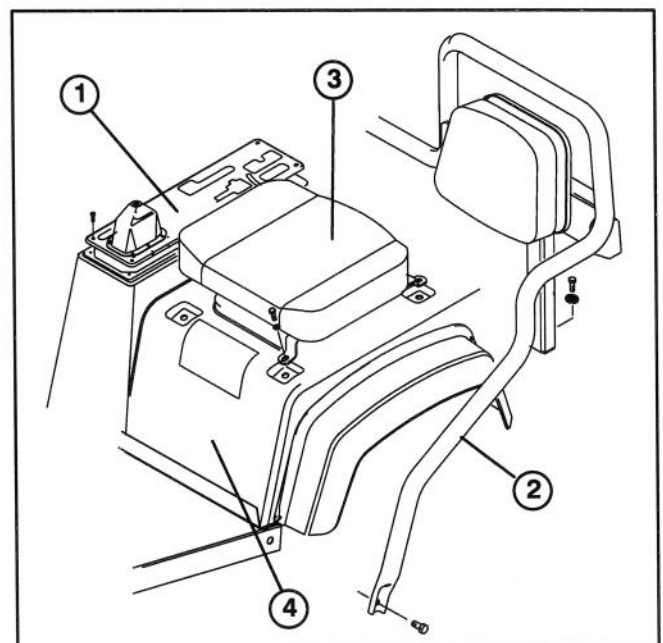

Figure 1
2. Unscrew and remove all knobs from console levers (Fig. 1).
3. Remove (6) screws securing outside edge of center console cover plate to frame and remove cover plate (Fig. 1).
4. Remove (2) capscrews and locknuts securing front legs of seat frame to sides of vehicle floor (Fig. 1).
5. Remove (2) capscrews and lockwashers securing seat frame brackets to vehicle frame (Fig. 1). Remove seat frame from vehicle.
7. Remove (4) capscrews and lockwashers securing each set of seat brackets to vehicle frame and remove seat assemblies (Fig. 1). Lift off skirt and fender assembly.